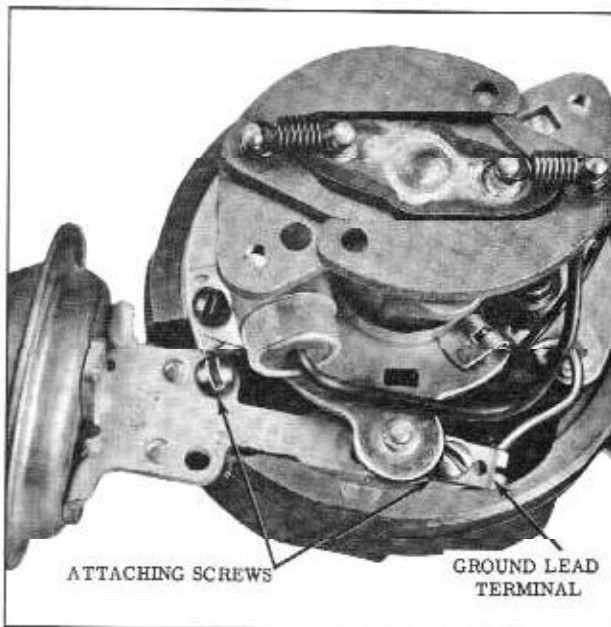

Fig. 13-64 Vacuum Advance Unit
1. Remove the two vacuum advance attaching screws. (Fig. 13-64)
4. Install the attaching screws with the ground lead terminal under the inner mounting screw. (Fig. 13-64)
1. Install the vacuum advance with the ground lead terminal under the inner mounting screw. (Fig. 13-64)